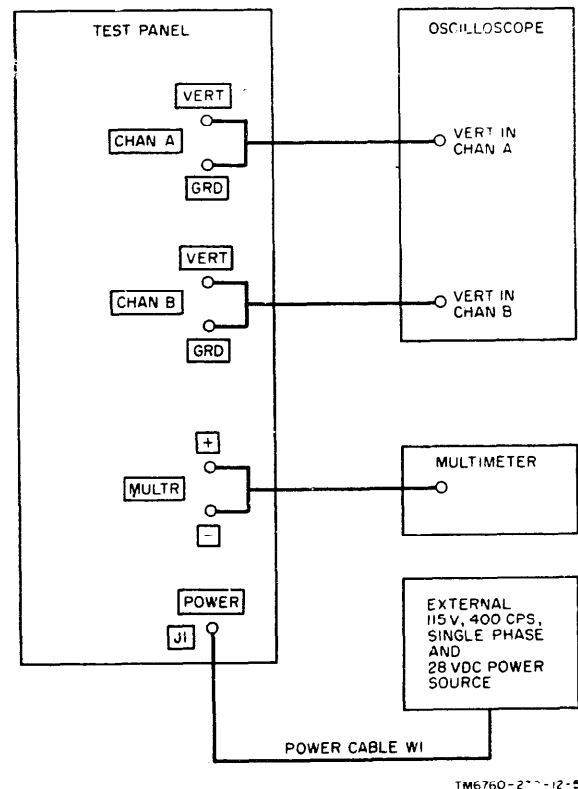

Figure 3-3. Test panel setup for internal test..
b. Internal Test (fig. 3-3).
(1) Preset test panel controls as indicated in a above.
(2) Connect external power source and external test equipment as shown in figure 3-3.